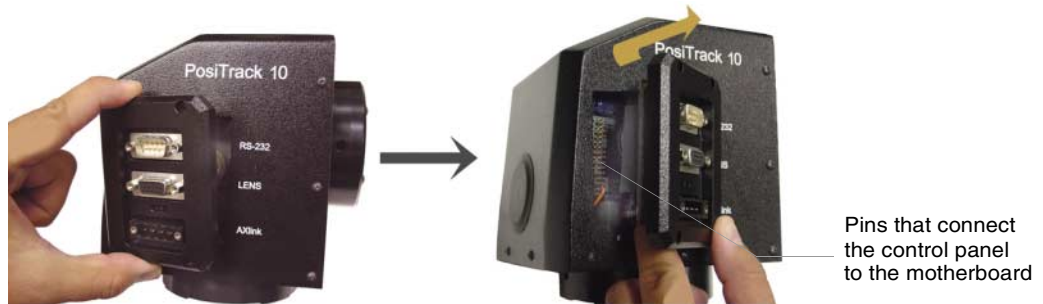

FIG. 7 Control panel removal
4. Carefully pull the connector panel away from the main unit until the bottom edge of the cover clears the connector panel. Be careful not to damage the pins attached to the connector panel. FIG. 7 illustrates how to remove the control panel.